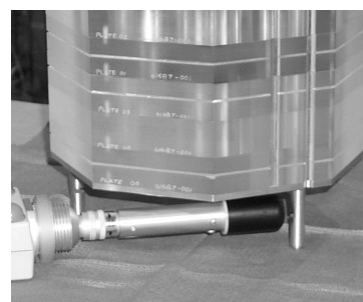

Figure 6. Example of typical dosimetry measurement Geometry. Dosimetry center is always 25 mm below bottom of phantom
- **Dosimetry tools:** The NEMA Cardiology Phantom entrance exposure rate is measured at a standardized position in front of the entrance surface of the phantom (25 mm). This position is considered an acceptable choice for this particular benchmarking phantom. The phantom can also be configured to generate the FDA measuring point (30 cm in front of the image receptor). See Figure 6.